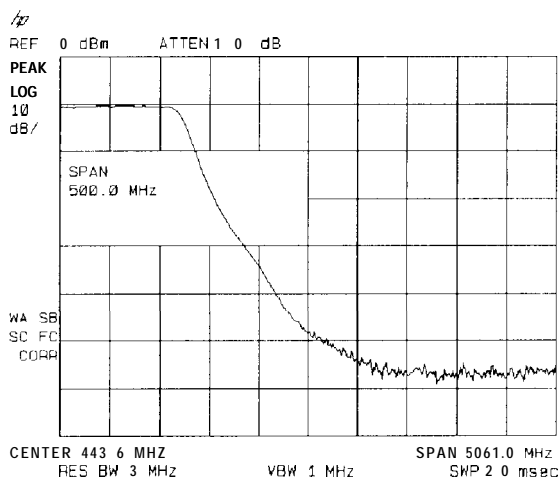

Figure 4-6. Spectrum Analyzer Settings According to the Measurement Requirement
5. Since we are only interested in the rejection of the low-pass filter, tune the spectrum analyzer center frequency so that the roll-off of the filter comprises the majority of the trace on the display (see Figure 4-6).